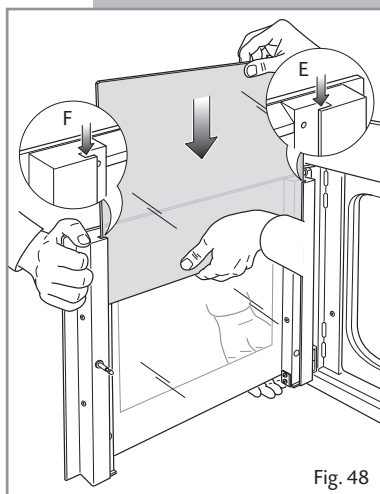

Fig. 48
- Whilst one person holds the door still, a second person should insert the inner pane in the left **E** and right **F** side guides (fig. 48) and gently let it slide up to the retainers **H** (fig. 49). Forcible replacement of the door glass may lead to damage of the door hinges.